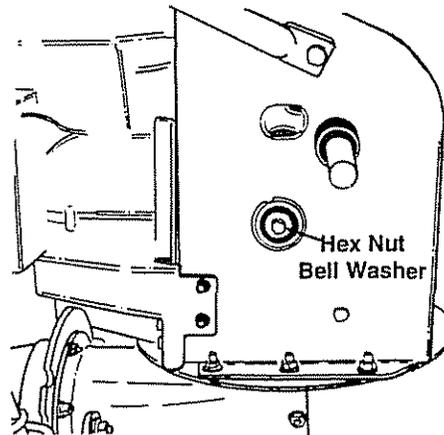

Figure 19
5. Using a 7/8" wrench to hold the shaft, loosen, but do not completely remove, the hex nut and bell washer on the left end of gear shaft. See Figure 19.